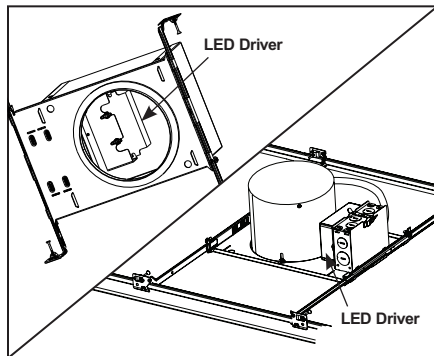
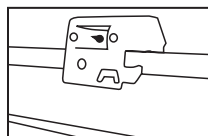

Figure 6
Figure 7
Step 3. Place fixture into position and snap bar hanger foot with integral T-bar notch onto T-bars (Fig. 6). Additional holes provided for securing with wire or screws (Fig. 7).
Driver replacements must be performed by a qualified electrician. Remove inner housing from fixture to access driver (Fig. 6). Order replacement kits as identified on the driver. The replacement kits include detailed instructions for driver replacement.